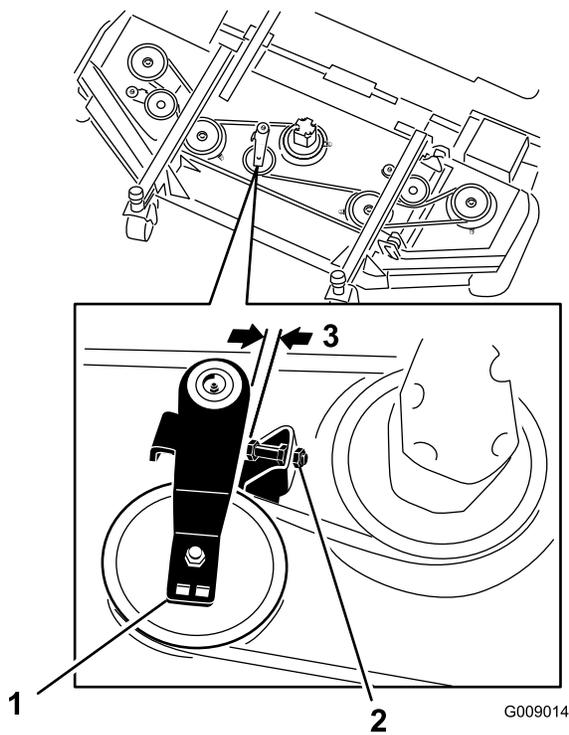

Figure 127
3. On the front deck, center position, loosen the jam nuts on the idler pulley stop screw and thread the stop screw into the bracket (Figure 127).
4. Using a ratchet wrench or similar tool, move each wing-deck idler pulley away from the drive belt to release the belt tension and allow the belt to slip off the wing-deck pulley (Figure 127).